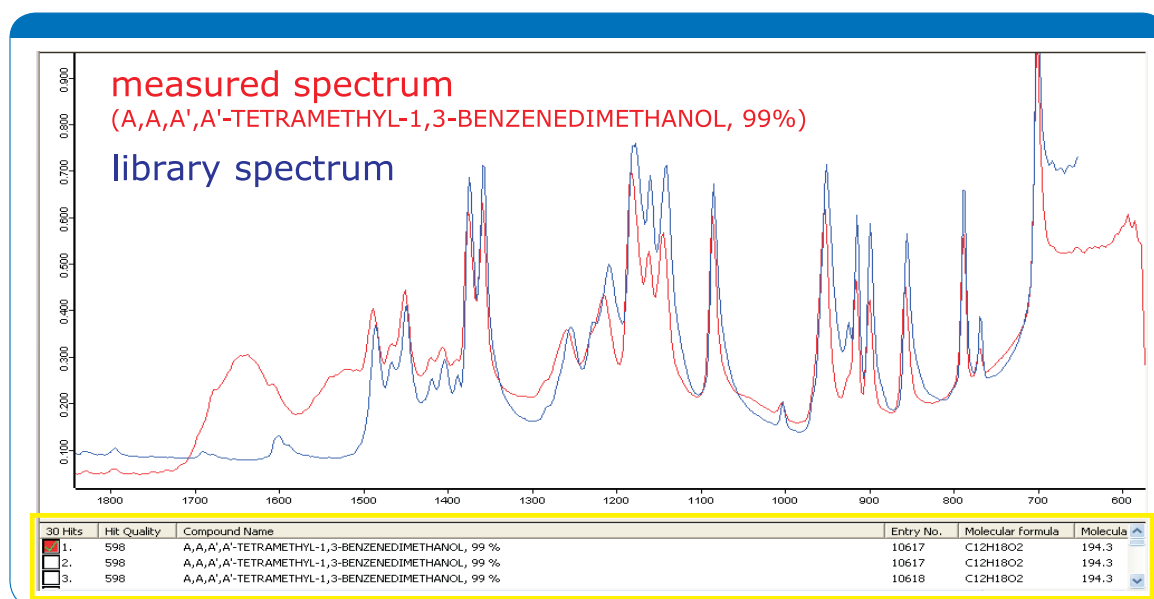

Figure 8: Result of a library search of the white material on the black rubber polymer sample.
- Rubber and the substance exhibit very different spectra. A library search clearly reveals the white substance to be a commonly used plasticizer (Figure 8).